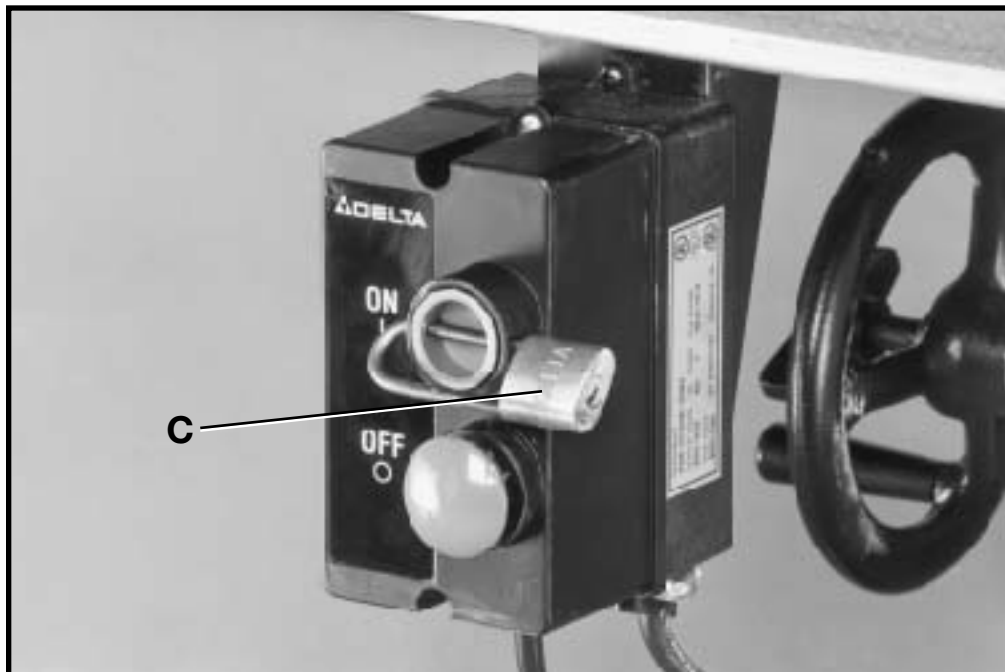

Fig. 53
IMPORTANT: We suggest that when the saw is not in use, the switch be locked in the “OFF” position using a padlock (C) Fig. 53 , through the switch plate and start button as shown.